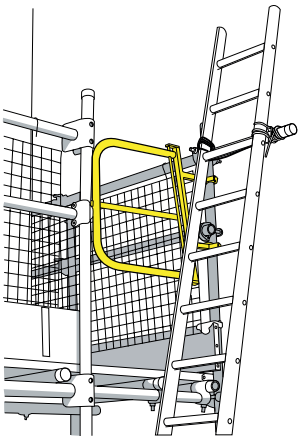

Figure 8 Access ladders should be tied and extend at least 1 m above the landing point to provide a secure handhold
- ladders used for access should project at least 1 m above the landing point and be tied; alternatively a safe and secure handhold should be available (see Figure 8);
15 **Ladders** used for access to another level should be tied (see Figure 8). **Stepladders** should not be used for access to another level unless they have been designed for this.